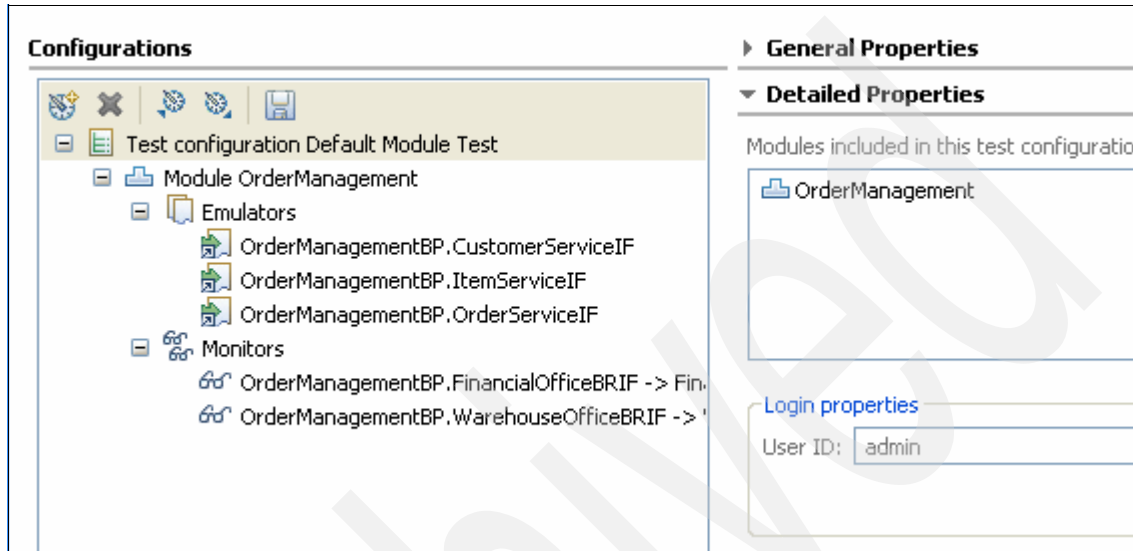

Figure 3-116 Integration test client's configuration settings for testing rules
4. Now that the two rules are implemented, your Configuration has only three emulators, as shown in Figure 3-116.